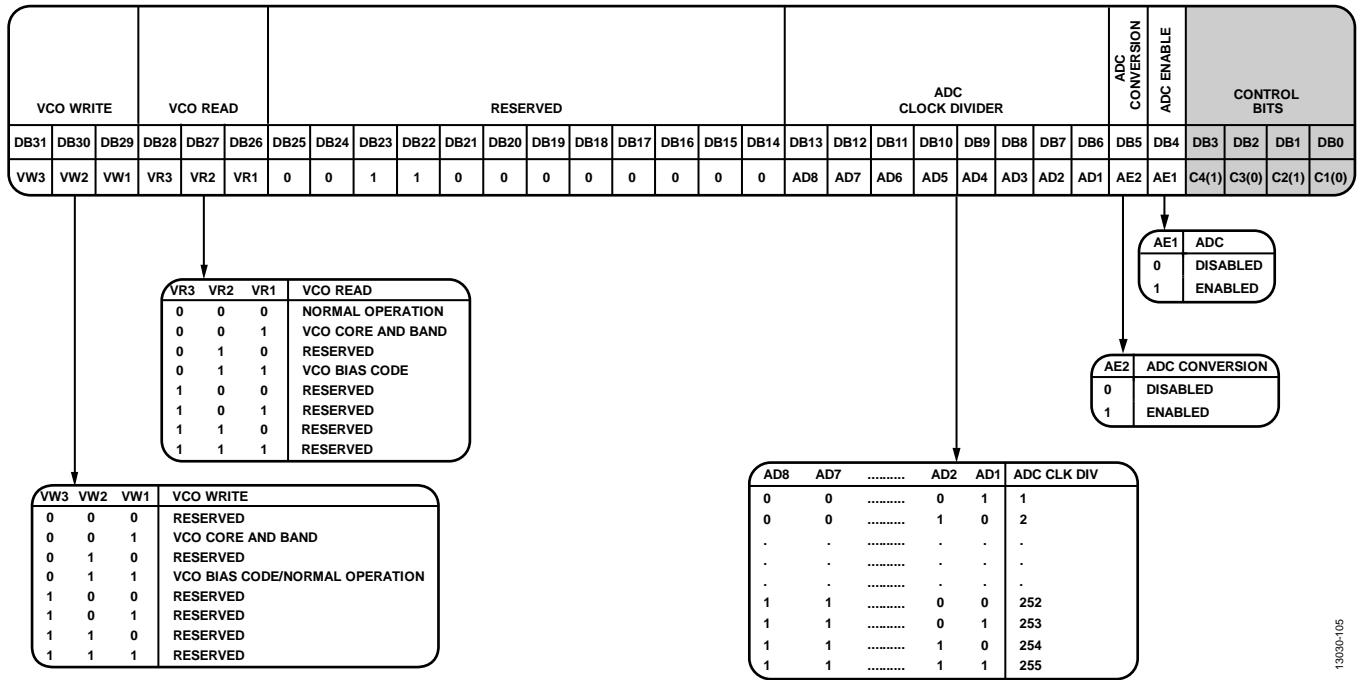

Figure 7. Register 10 (ADF4355-3)
3. Load R11 with VCO core, band, and bias code set as defined in Figure 7. Note VCO core bits are different for read and write.
3. Load R11 with VCO core and band, set as defined in Figure 7 and VCO bias code = 2 (normal operation). Note VCO core bits are different for read and write.